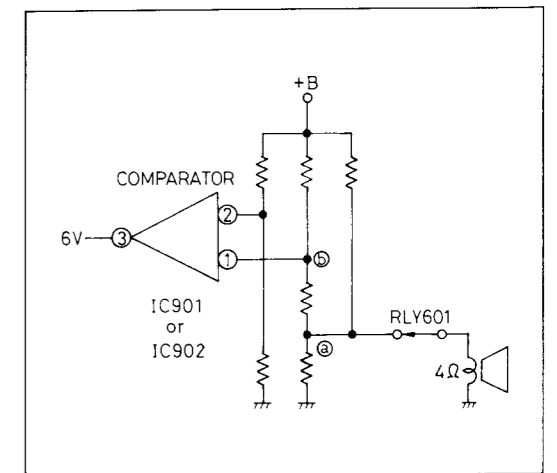

Fig. 2
1. If speakers with an impedance of 6Ω or less are to be connected to the left and right "MAIN" or "REMOTE" speaker terminals (Fig. 2).